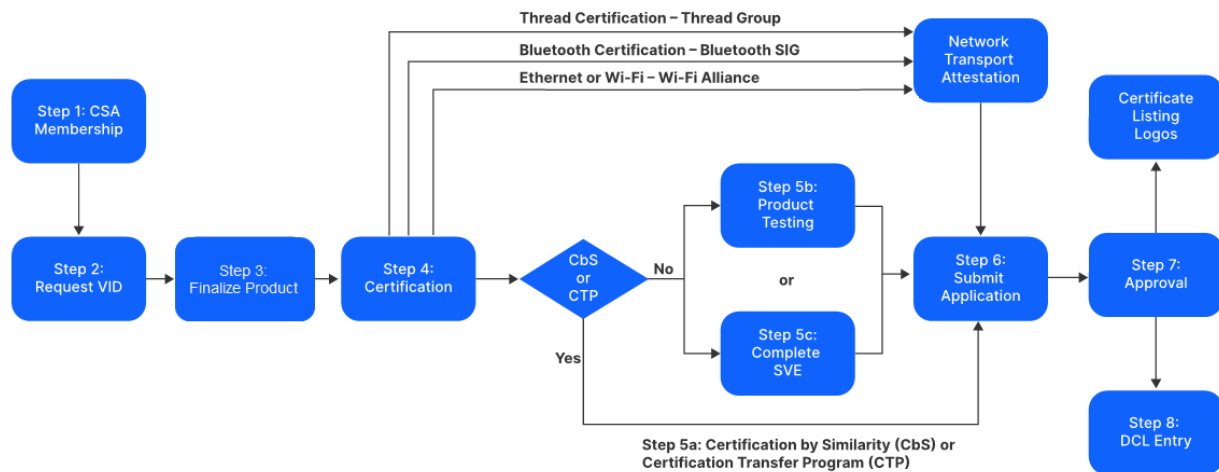

Figure 1. An overview of the eight-step Matter certification process.
To make it easier for product developers to understand the path to achieving Matter certification, the CSA broke down the process into eight clearly defined steps as shown in Figure 1.
One crucial choice that needs to be made early on is the selection of a network transport option for your device (Step 4 in Figure 1). Since Matter is an IP-based protocol that operates as an application layer on top of technologies like Wi-Fi and Thread, a network transport layer that achieves the necessary certifications from relevant standards organizations is required. Appropriate certification is also required if a Matter device use Bluetooth Low Energy (LE) for commissioning (which many do). By ensuring any of these technologies used in your devices are properly certified by the appropriate standards organization early on, you will be prepared to complete the appropriate CSA Attestation of Network Transport Protocol forms during the application process.